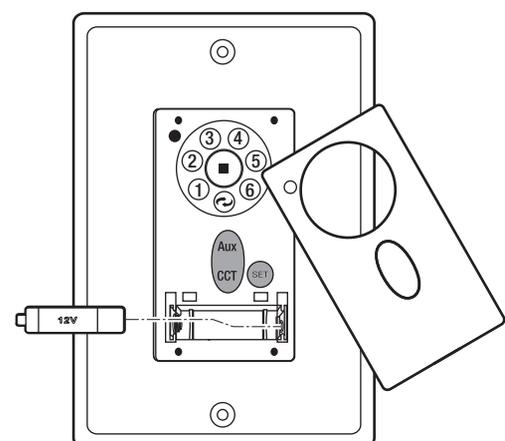

Figure 21
Remove the panel from the transmitter and then install one 23A/12V battery (included). To prevent damage to transmitter, remove the battery if not use for long periods of time. (Fig. 21)
3. Within 30 seconds of turning AC power on, press and release the "SET" button five seconds to enter the learning function. The down light of your fan, if applicable, will blink twice, and the fan will automatically begin to operate and start to rotate in counterclockwise direction and on the highest RPM for 1 minutes. When counterclockwise rotation has finished, the fan will automatically reverse to clockwise direction again to the highest RPM for 1 minutes. Fan will shut off when the self-calibration test has finished. The total self-calibration test will last about 2 minutes. (Fig. 21)